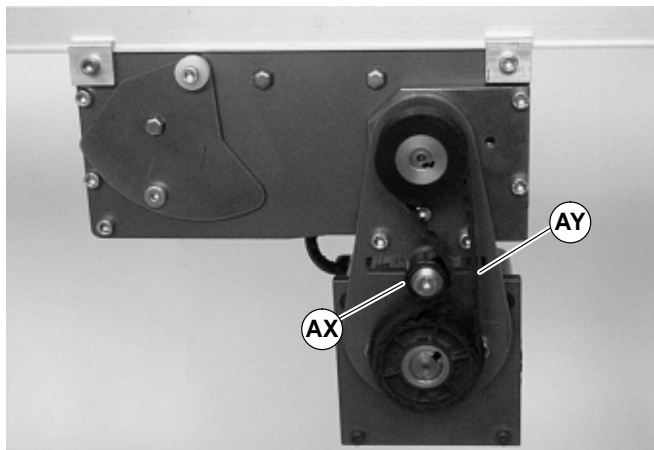

Figure 18
- Loosen belt tensioner (AX of Figure 18) then remove the belt (AY).